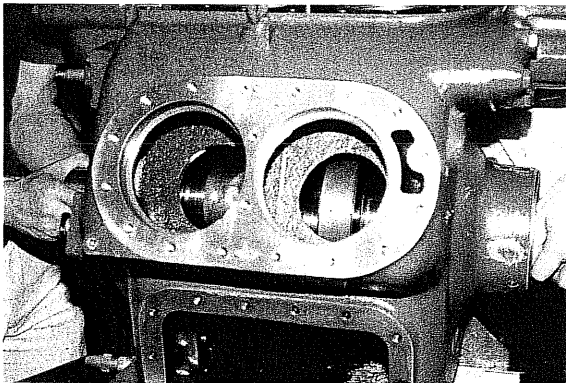

Fig. 65 Removing Crankshaft
- a) After removing the main bearing head, the crankshaft is held in place only by the seal side metal. With an assistant to support one end of the crankshaft, lift and draw out the shaft until the main bearing side balance weight can be rested on the main bearing flange (Fig. 65).